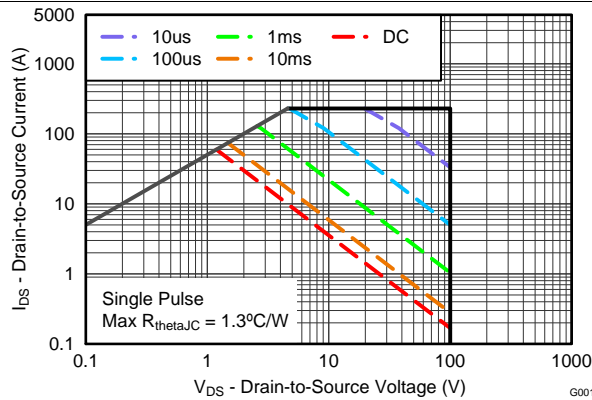

Figure 10. Maximum Safe Operating Area
• Updated the safe operating area in <a href="#">Figure 10</a> .....	7